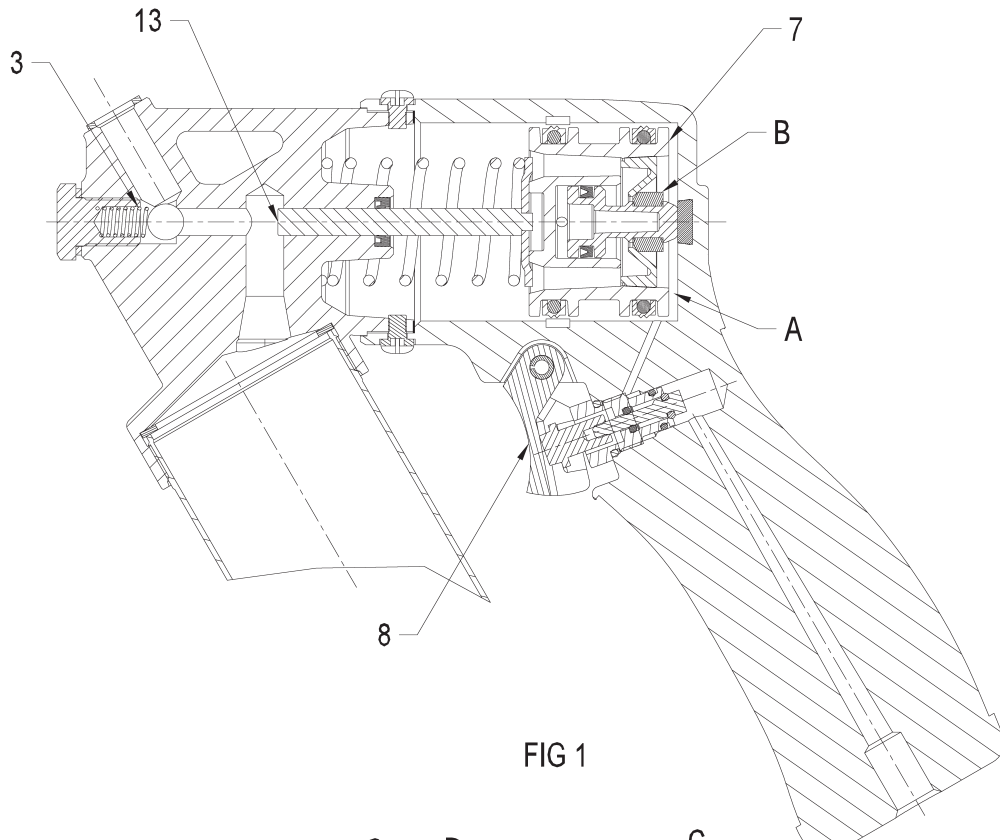
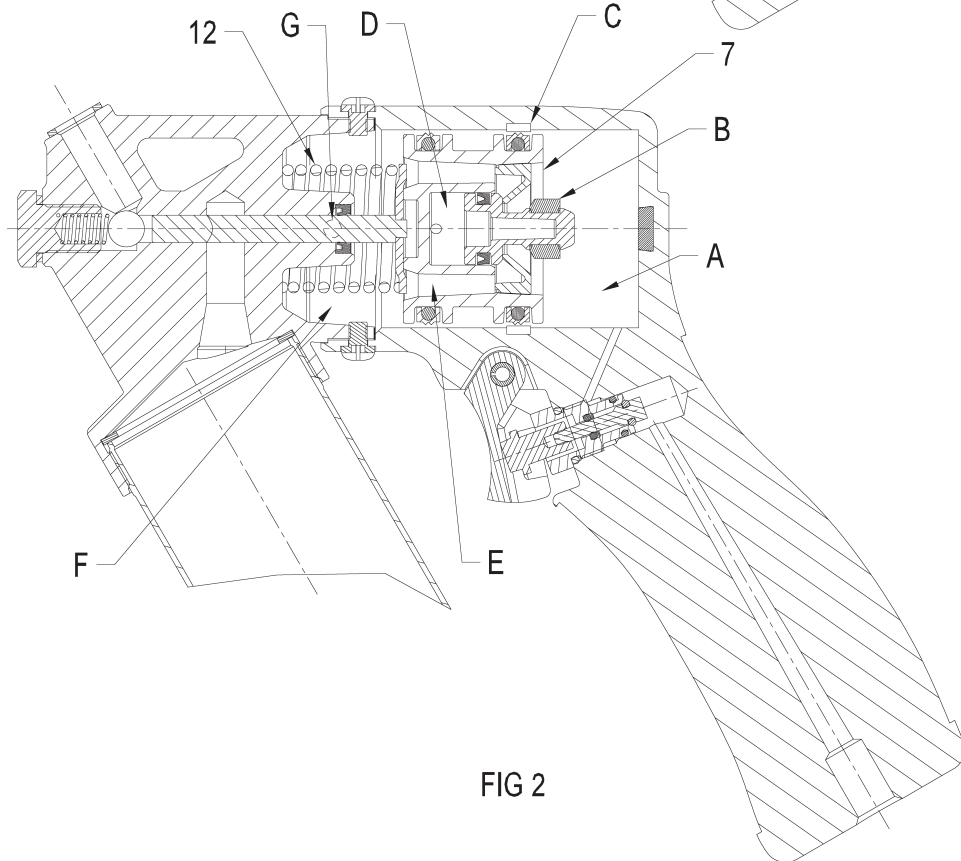

FIG 1
FIG 2
The gun operates when the trigger (8) is depressed. Air is admitted to Chamber A (see Fig 1.) and pushes the piston (7) with the plunger (13) to the left. Vent valve B is closed. The grease, under pressure from plunger (13), opens the check valve (3) and delivers one shot of the lubricant.
When the piston (7) reaches the bypass groove C (see Fig. 2) air is admitted into chamber D and opens the vent valve B. The air pressure from chamber A is vented through valve B and vent holes E to the chamber F which communicates with the atmosphere through the hole G. The air pressure is equalized on both sides of the piston (7) and the force of the spring (12) will return the piston to the initial position, recharging the gun (see Fig 1). Vent valve B will be closed and air from chamber D is vented through the bypass groove C to the atmosphere. The cycle repeats in the same manner while the trigger is depressed.